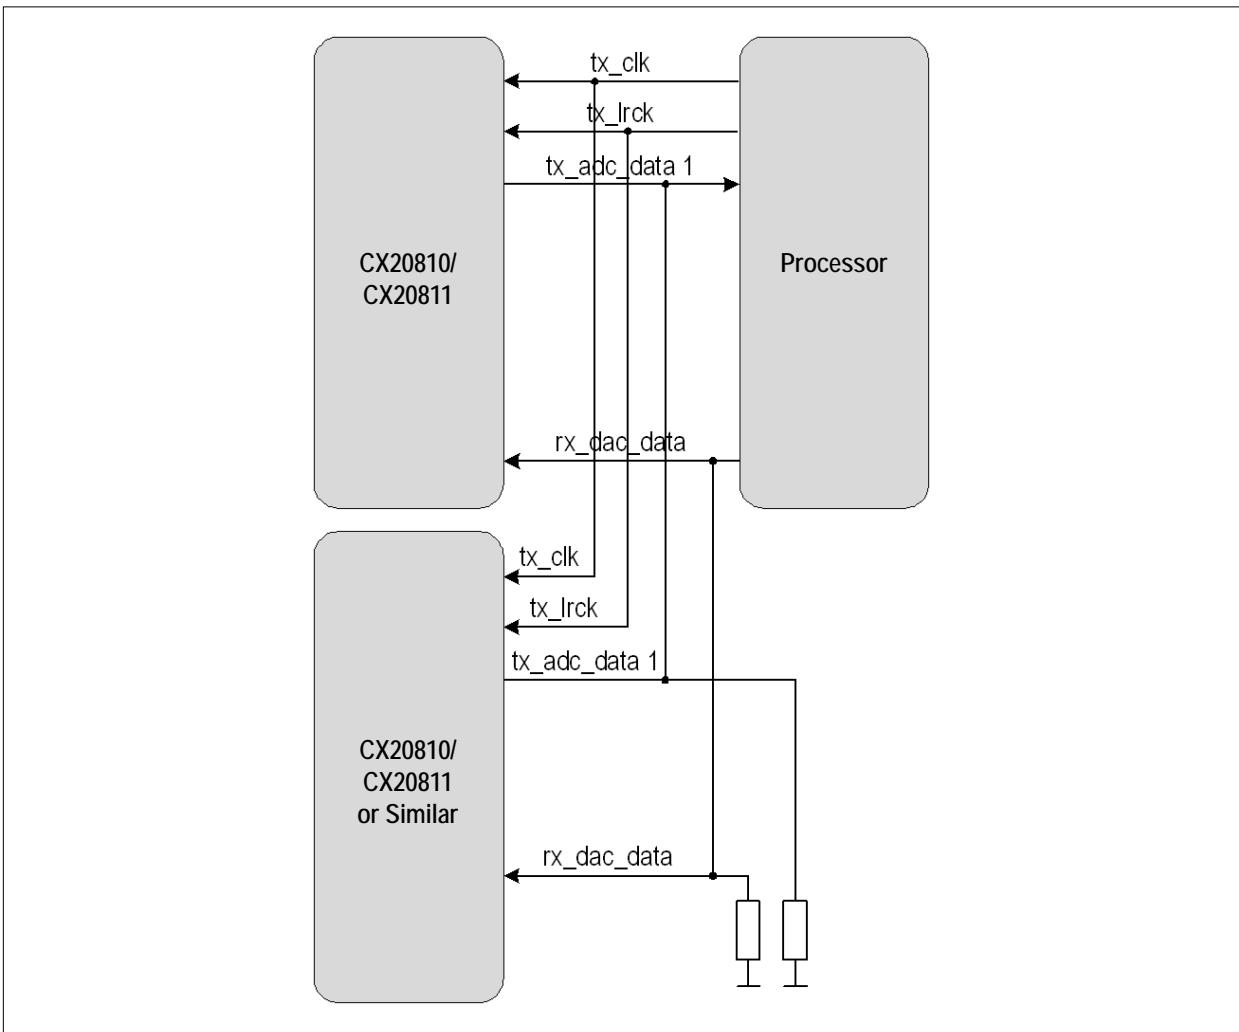

Figure 91: TDM with Processor as the Master
- Figure 91 on page 146 provides the TDM with the processor as the master